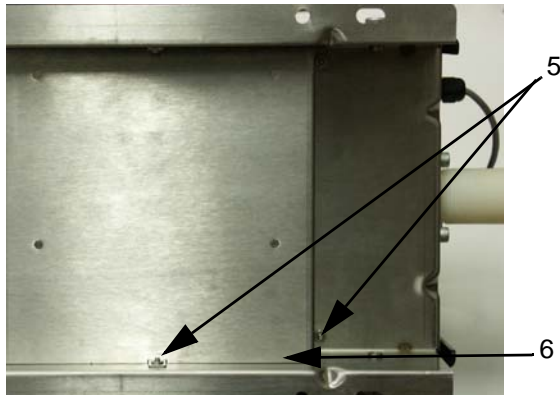

FIG. 20
2. Loosen 6 screws (5) on bottom of panel to remove control board cover (6). FIG. 20 (RoboMix Fluid Panel only.)
7. Reassemble control board cover with 6 screws (5). FIG. 20. (RoboMix Fluid Panel only.)